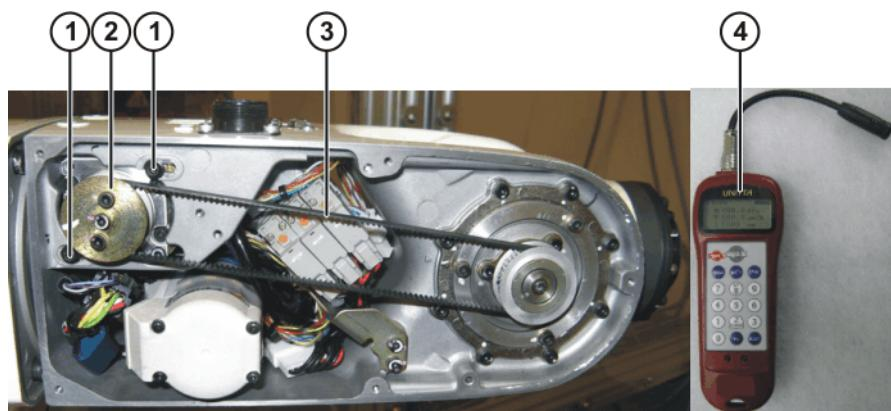

Fig. 11-4: Measuring the toothed belt tension on A5
7. Slightly slacken the 2 screws (>>> Fig. 11-4) on motor A5 until it is just possible to shift the motor.